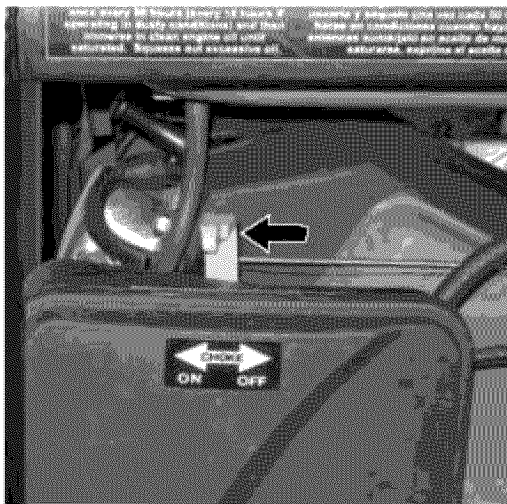

Figure 23 – Choke Lever
3. Move the choke lever to the **ON** position (see Figure 23).